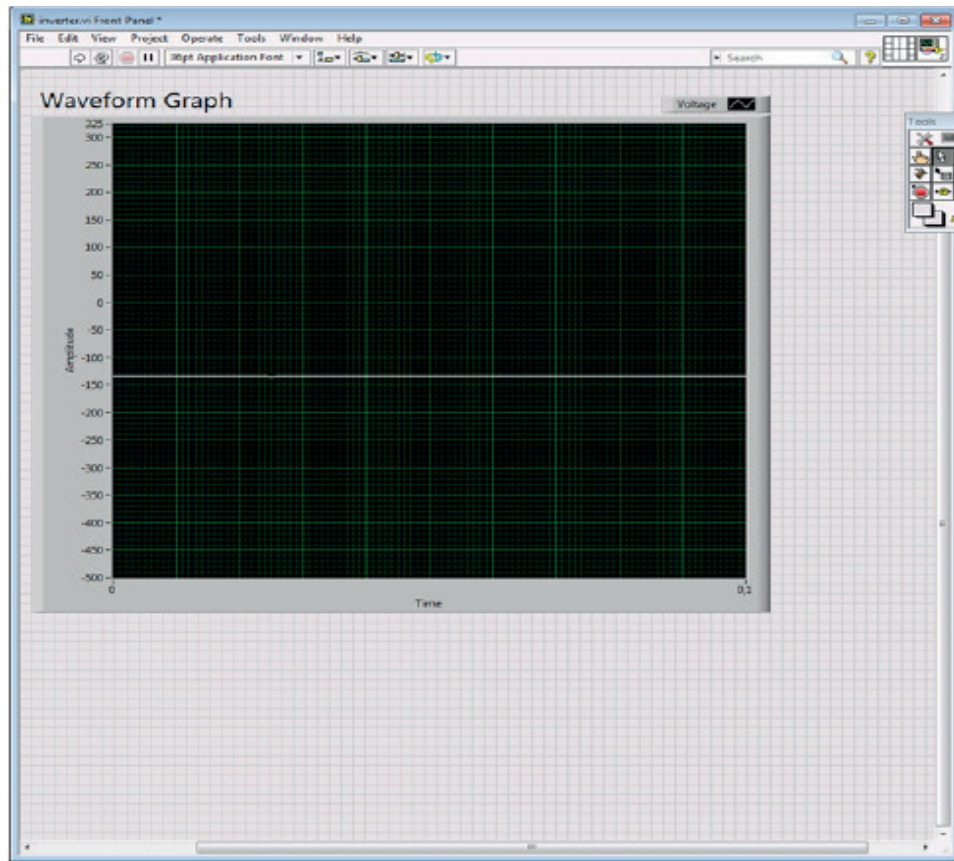

Figure-2
- 5) Use the LabView software to add a waveform graph to the front panel as shown in figure-2. Set the timescale to 0.1 second.